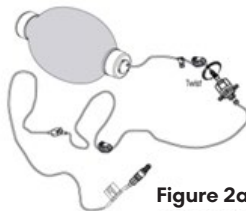

Figure 2a
2. Remove the caps off the compression unit exit port and the regulator inlet port and connect the tube to the Regulator (luer connector) (see Figure 2a).